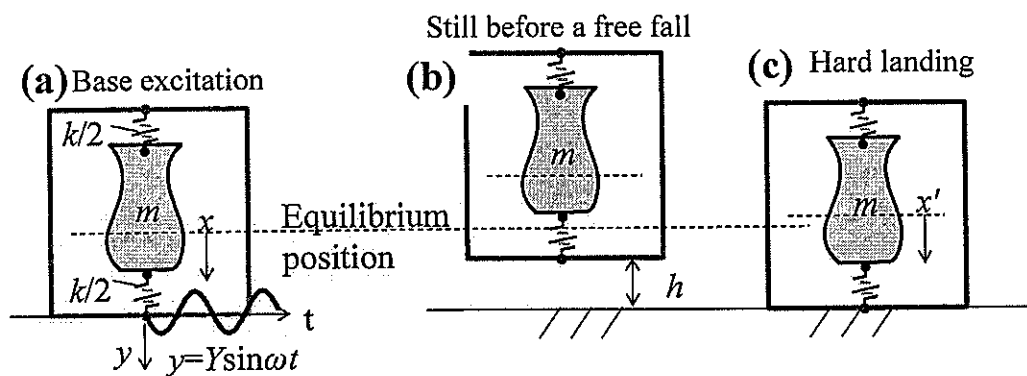

Figure 7
- 4(a) Figure 7 shows a ceramic vase of mass m being packed in a box with packaging foams of a total stiffness k . During the shipping by post, this box of vase is subjected to various handling conditions which include a base excitation (of conveyor belt) and a drop test.